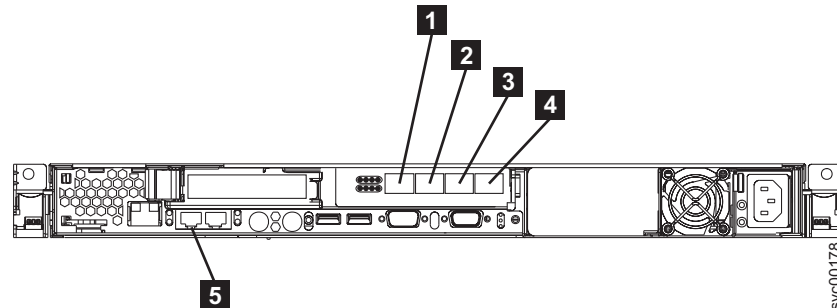
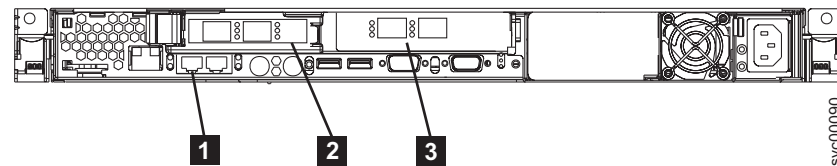

Figure 46. Connectors at the back of the SAN Volume Controller 2145-8F4
Figure 47. Connectors at the back of the SAN Volume Controller 2145-8F2
1. Connect the Ethernet cable to Ethernet port 1 **5** in Figure 46 on page 51 or Figure 47 on page 51.